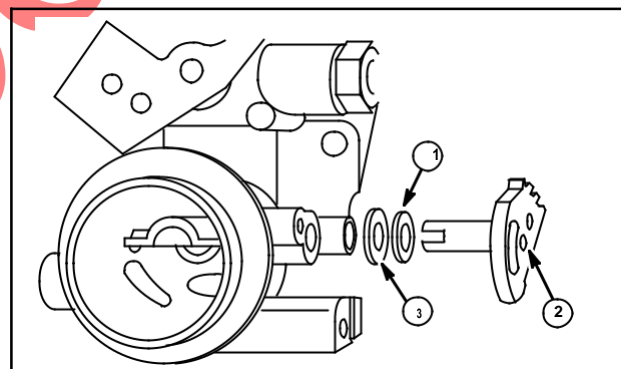

Fig. 74
1. Pull nylon choke shaft (2) sideways to separate choke shaft from choke plate.
2. Remove spring (Choke-A-Matic only), felt washer (3), and metal washer (1) from choke shaft, Fig. 74.